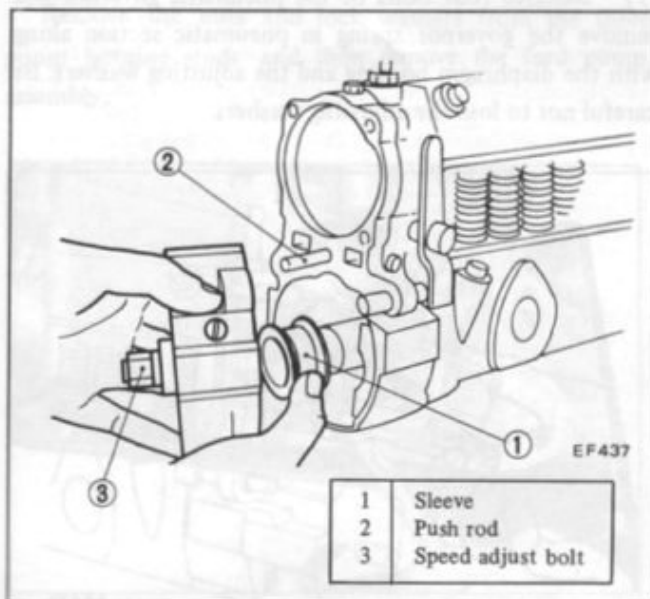

Fig. EF-39 Removing mechanical governor cover
(4) Pull out the push rod. (Refer to Figure EF-39.)